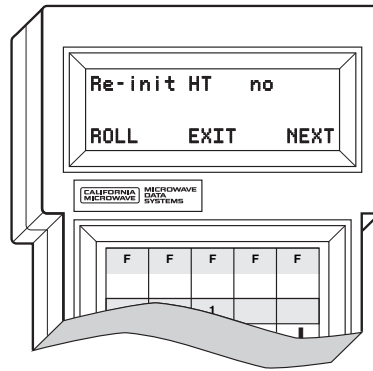

Figure 11. HHT Setup Display
- Plug the HHT into the DIAG. connector. Enable the setup mode by pressing the **SHIFT**, **CTRL** and **SPACE** keys in sequence. The display shown in Figure 11 appears.